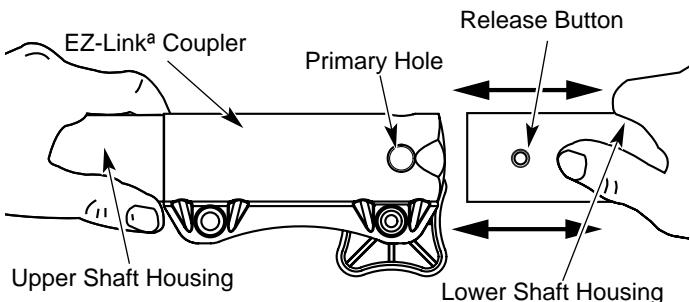

Fig. 7
3. While firmly holding the upper shaft housing, pull the cutting attachment or add-on straight out of the EZ-Link^a coupler (Fig. 7).
2. While firmly holding the add-on, push it straight into the EZ-Link^a coupler (Fig. 7).
CAUTION: Lock the release button in the primary hole (Fig. 7) and securely tighten the knob before operating this unit.